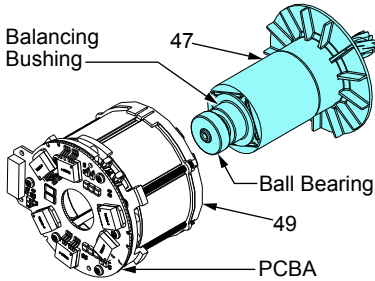

Figure 1
- **Strong magnetic force.** Care must be taken when installing the Rotor (47) into the Stator Assembly (49). Do not allow rotor bearing or balancing bushing to hit PCBA on the back end of the stator. This could cause damage to the PCBA. See figure 1.